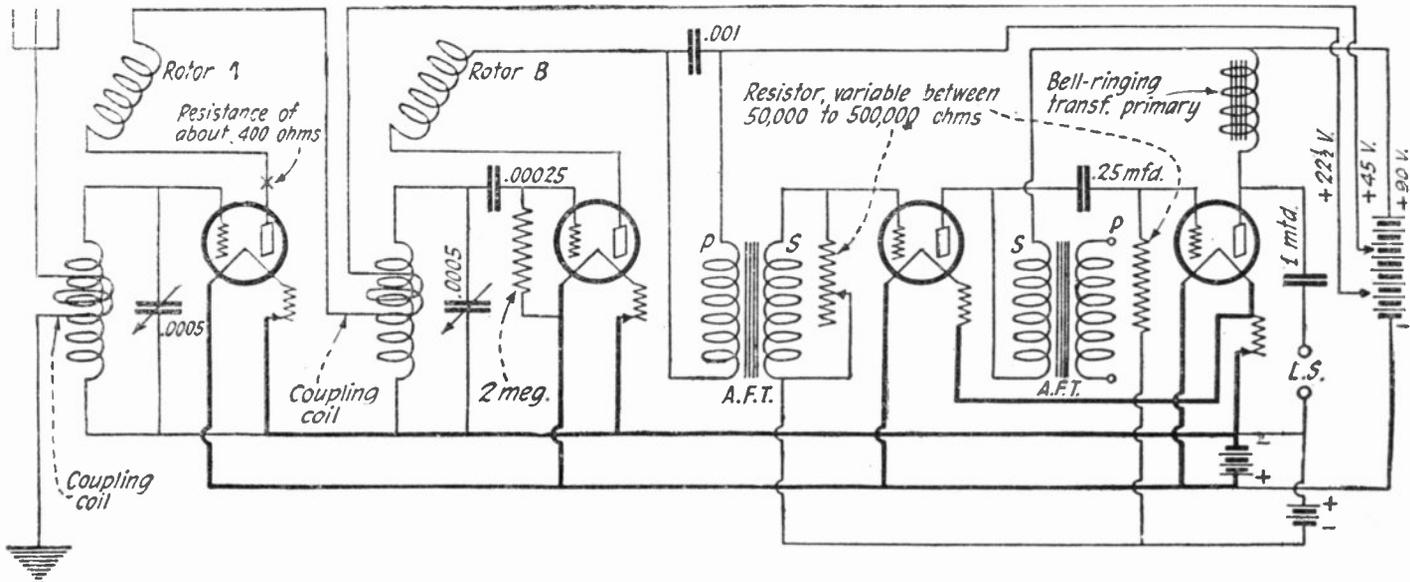

Fig. 7. This circuit shows how it is possible to gain cascade regeneration in a four tube radio receiving circuit.
(7) Mr. Lew M. Meder, Carson City, Nevada, asks:
A. 1. Cascade regeneration is difficult to handle. The circuit is shown in Fig. 7 on this page.